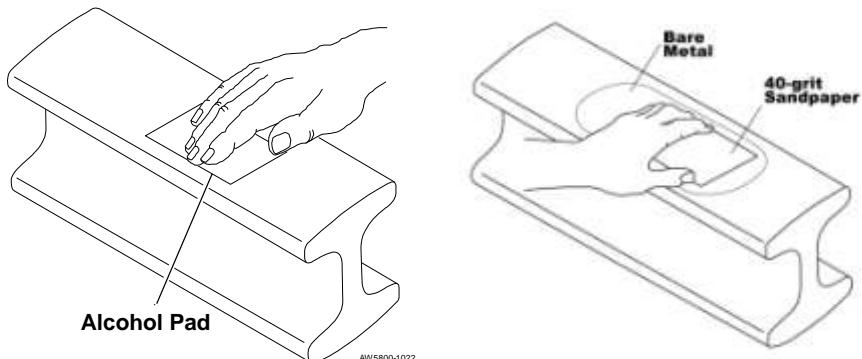

Fig. 2: Cleaning and Sanding the Steer Axle
2. Using chalk or a permanent marker, mark the top of the steer axle 3" on either side of the center mark (6" in total). Clean this area. If the axle is heavily caked with dirt or grease, use Brakleen to remove the worst. Then clean the 6" area using two of the alcohol pads supplied in the installation kit. See Fig. 2.
3. Using 40-grit medium sandpaper or a pneumatic grinder, sand the 6" area until nothing remains but bare metal. We recommend that you partially sand down the mold line as well. See Fig. 2.